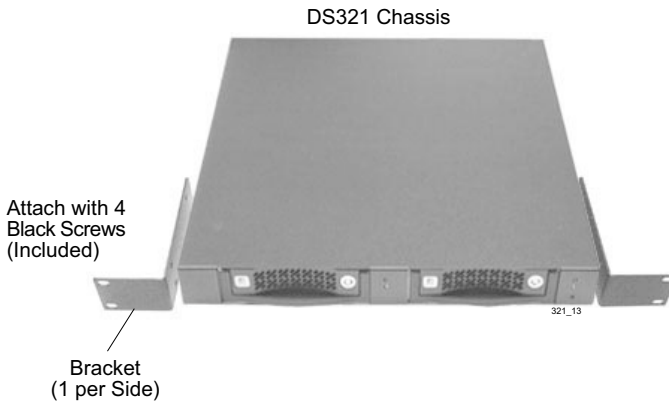

Figure 7: Rack Mount Conversion
3. Attach each bracket with four (4) black #6-32 Phillips Flat Hd. screws as shown in Figure 7.